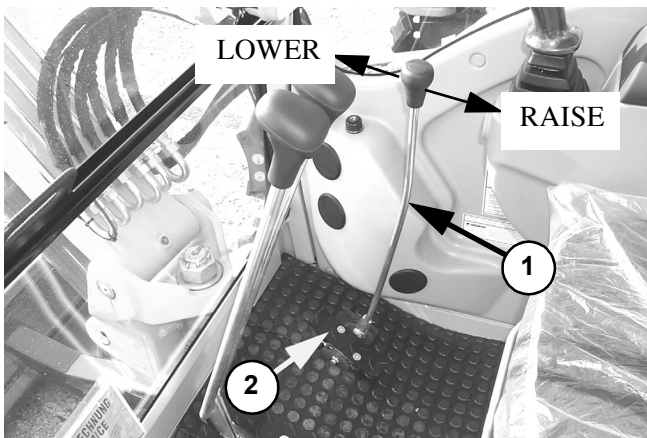

Figure 3-15 Dozer Blade Control Lever (Newer Excavators)
Newer excavators have a dozer blade control lever (1) Figure 3-15, directly to the right of the right of the auxiliary hydraulics pedal (2). To use the dozer blade control lever: